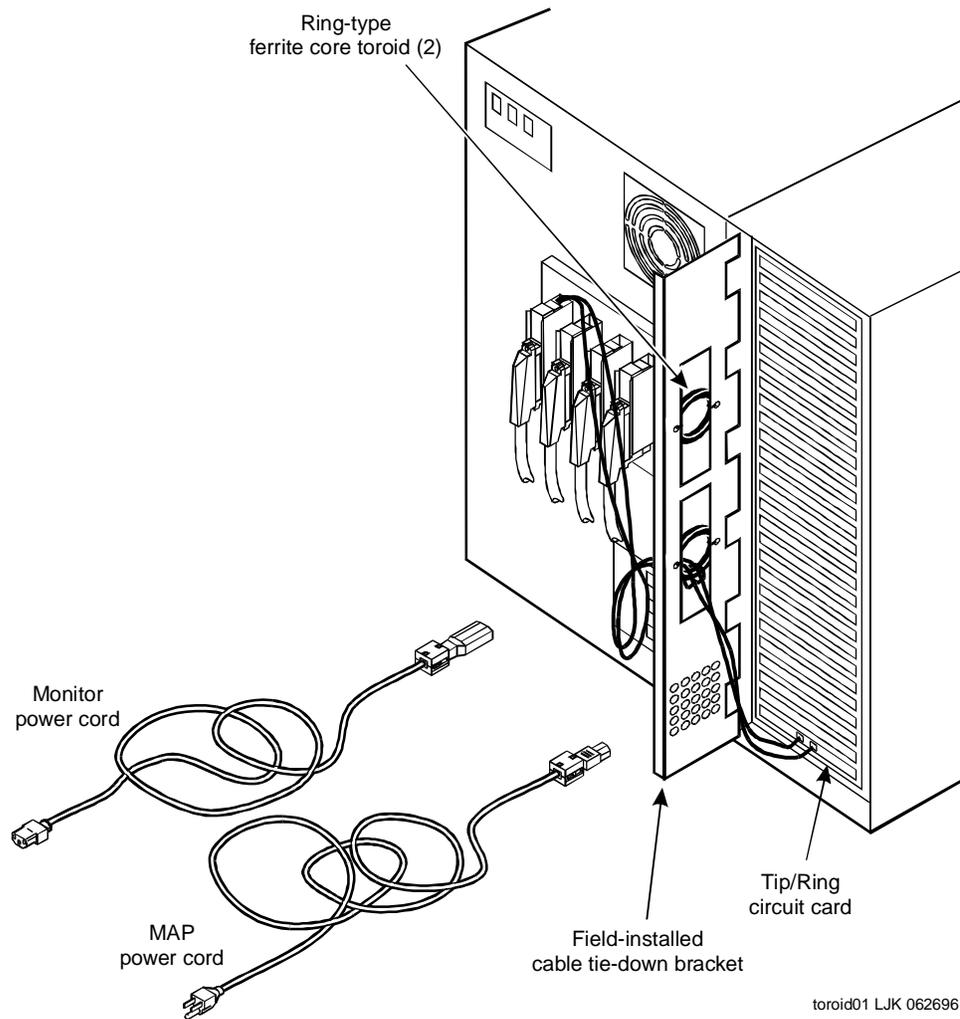

Figure 7-2. Ring Type Ferrite Core Toroid Installation
2. Carefully cut the cable ties which hold the ring type ferrite core toroid to the cable tie down bracket (Figure 7-2).
2. Attach a ring type ferrite core toroid to the cable tie down bracket, using two cable ties (Figure 7-2).